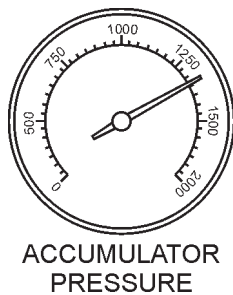

Figure 30. Accumulator Pressure Gauge
- The **Accumulator Pressure Gauge** (Figure 30) should read approximately 1750 pounds per square inch (psi).